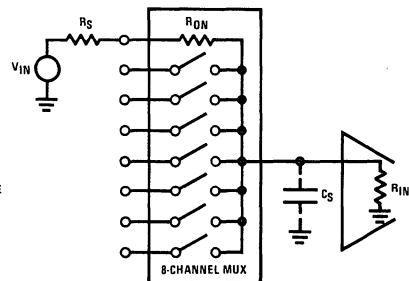

FIGURE 6. 8-Channel MUX
1. Multiplexer's Influence on System Accuracy (Figure 6).
- a. The error, (E), caused by the finite "ON" resistance, R_{ON} , of the multiplexing switches is given by:
C_S (Figure 6): MUX output capacitance + following stage input capacitance + any stray capacitance at this node.